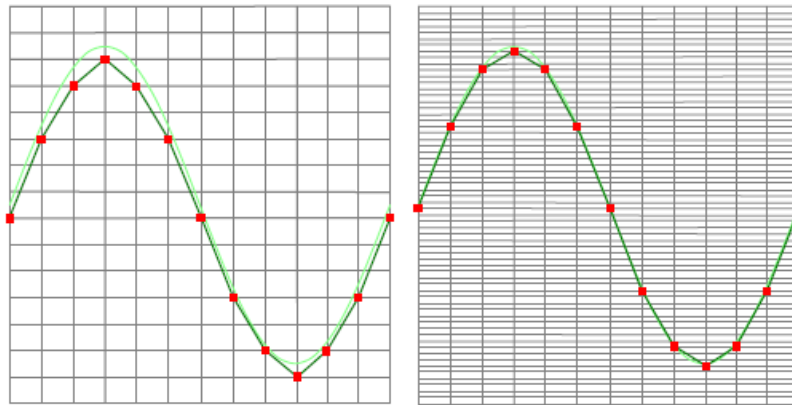

Figure 3.5: The effect of the resolution
- In figure 3.5, the same signal is digitized, using two different amounts of levels: 16 (4-bit) and 64 (6-bit).